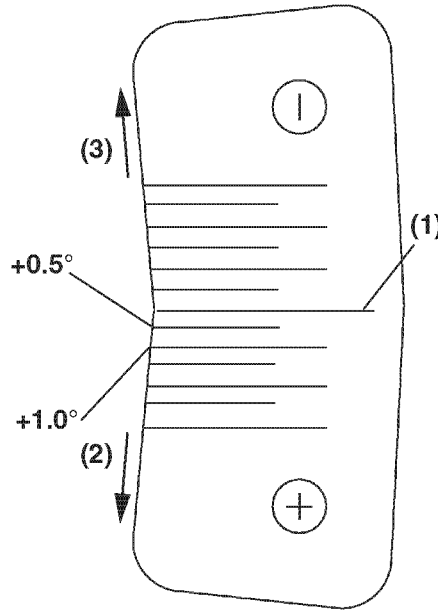

Figure 7-27
- If the difference between the timing index numbers is a positive number, the fuel injection pump mounting position must be advanced (**Figure 7-27, (2)**) (rotated away from the engine) as compared to the “standard mark” (**Figure 7-27, (1)**) by the calculated positive amount, adjust the fuel injection pump to the calculated value.
- If the difference between the timing index numbers is a negative number, the replacement injection pump must be retarded (**Figure 7-27, (3)**) (rotated toward the engine) by the calculated negative amount.
The above calculated difference indicates that the replacement fuel injection pump is to be installed at +0.5° (advanced) from the “Standard Mark” (**Figure 7-27, (1)**) on the timing sticker.